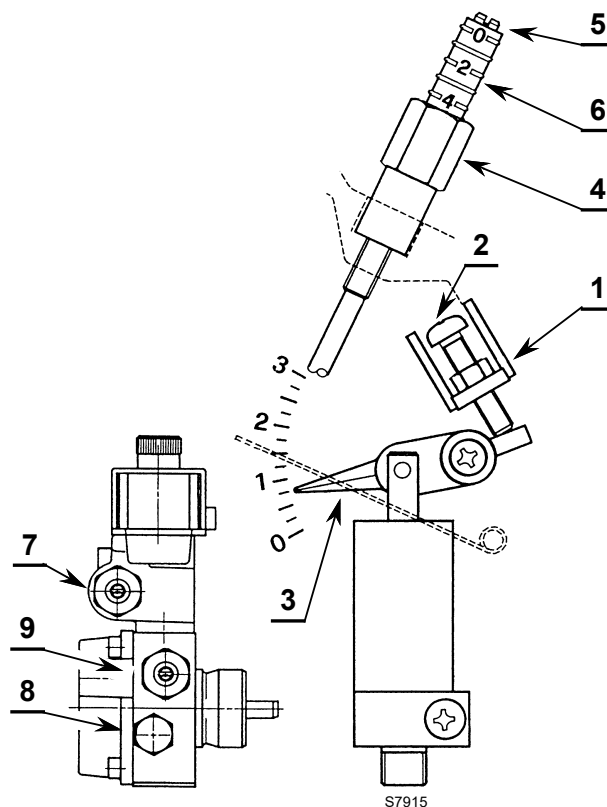

Fig. 13
- Loosen nut 1)(Fig. 13), turn screw 2)(Fig. 13) and set needle 3)(Fig. 13) to the desired position.
- When the operation is completed, tighten nut 1)(Fig. 13) again.
- If necessary, recalibrate the pressure by acting on the screw 7)(Fig. 13).
- The pressure gauge for checking the pressure must be fitted in place of cap 8)(Fig. 13).
- Loosen nut 4)(Fig. 13), turn screw 5)(Fig. 13) and set needle 6)(Fig. 13) to the desired position.
- When the operation is completed, tighten nut 4)(Fig. 13) again.
- If necessary, recalibrate the pressure by acting on the screw 9)(Fig. 13).